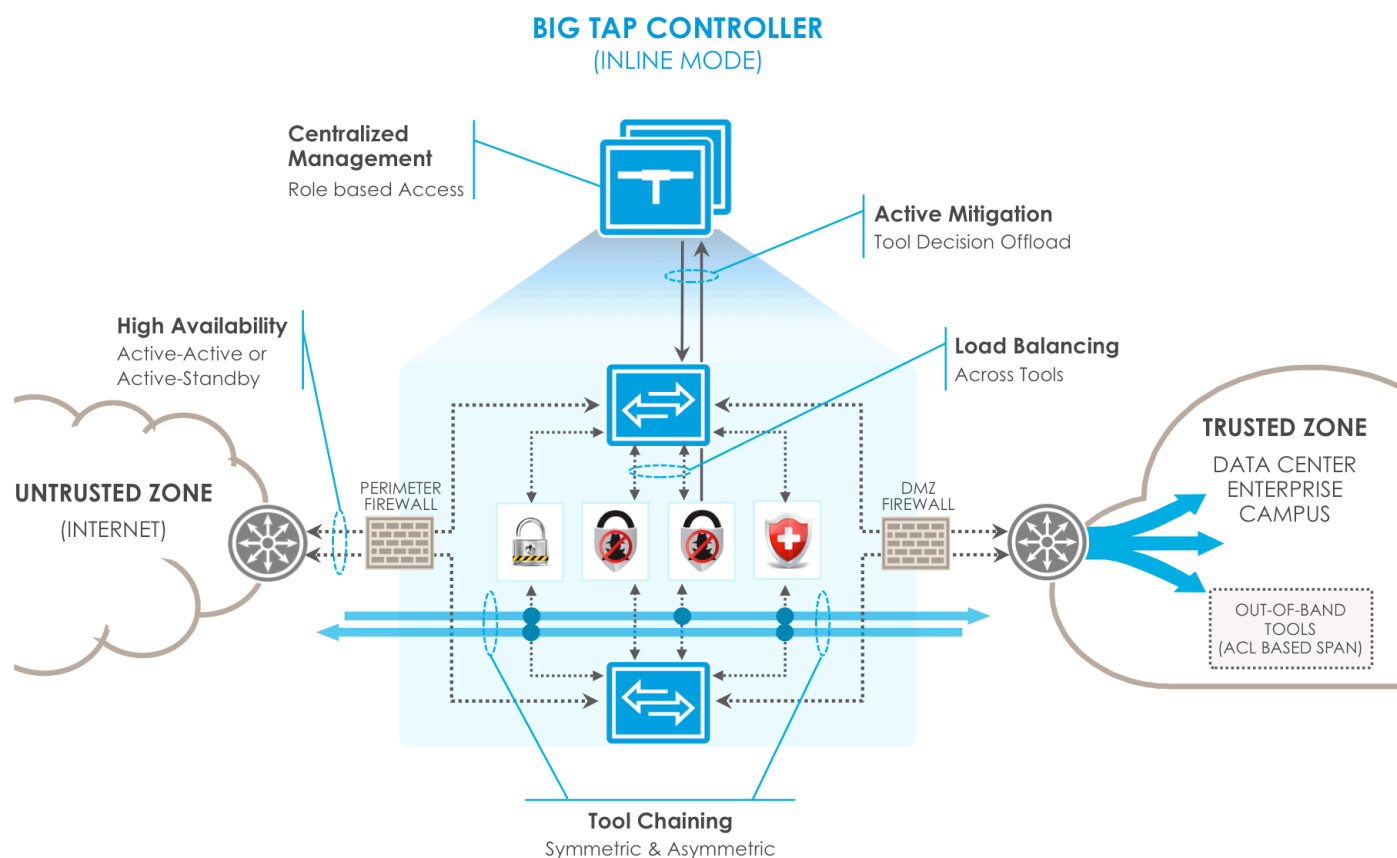

Figure 2: Security Tool Deployment in a DMZ with Big Tap Inline
Big Tap Inline addresses the problems with the traditional approaches by enabling network and security admins to easily deploy and manage multiple inline security or analytics tools in their production network. As shown in Figure 2, these inline/active Big Tap switches are managed by same pair of controllers used for managing the Big Tap (Out of Band) Monitoring Fabric.
- **Tool Redundancy:** It is also typical for tools in a DMZ to be deployed in pairs for load balancing as well as resiliency requirements. Using Big Tap Inline deployment as shown in Figure 2, a pair of security tools is connected to each of the two Big Tap fabric switches. The tools can be deployed in **Active-Active** or **Active-Standby** mode.